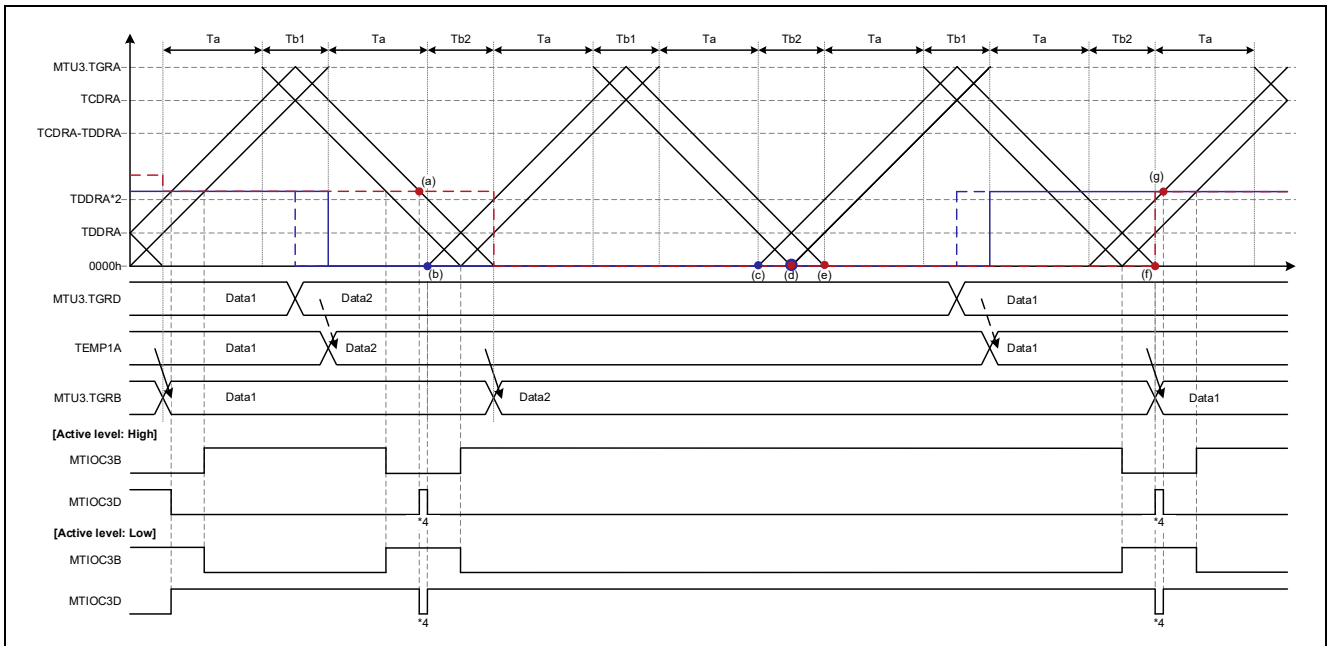
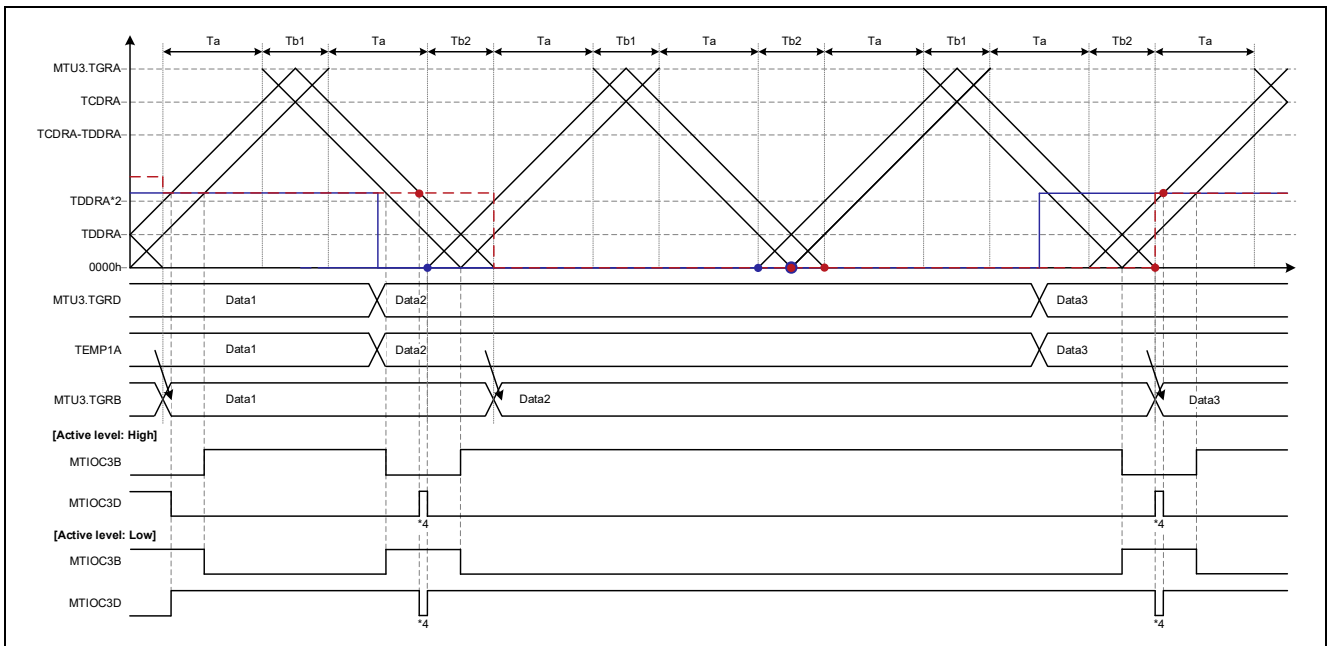

Figure 1.30 Complementary PWM Mode 2 Operation Example
Figure 1.31 Complementary PWM Mode 2 Operation Example (Output Start: Trough, Overwrite in Ta Interval, Duty: D → 100% → D)
Figure 1.30 to Figure 1.33 illustrate the MTU operating modes and cautions listed in Table 1.9.
- [Operation example 1] Figure 1.30, Complementary PWM Mode 2, Output Start: Trough, Tb Interval Overwrite, caution 4
- [Operation example 2] Figure 1.31, Complementary PWM Mode 2, Output Start: Trough, Ta Interval Overwrite, caution 4
Figure 1.30 shows an operation example of buffer overwrite in the Tb1 interval (crest) in complementary PWM mode 2.
Figure 1.31 shows an operation example of buffer overwrite in the Ta interval in complementary PWM mode 2. Except for the difference in the buffer overwrite timing, the operation is the same as that shown in Figure 1.30.
Figure 1.32 shows an operation example of buffer overwrite in the Tb interval in complementary PWM mode 3. Except for the difference in the buffer overwrite timing and transfer timing and transfer timing, the operation is the same as that shown in Figure 1.30.
Figure 1.33 shows an operation example of buffer overwrite in the Ta interval in complementary PWM mode 3. Except for the difference in the buffer overwrite timing and transfer timing, the operation is the same as that shown in Figure 1.30.